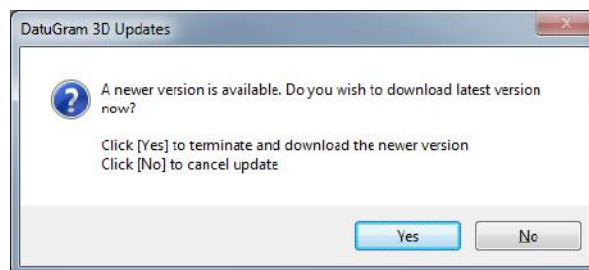

Figure 103: Software Update Window
1. If a new version is found and you have a valid maintenance agreement, DatuSurvey™ will inform you that a newer version exists and it can be downloaded (Figure 103). Follow instructions to download and save the installation file. After installation file is downloaded, the installation starts automatically.